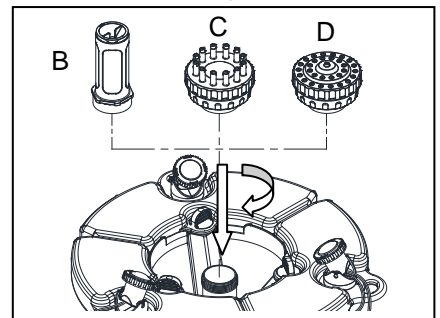

Fig. 2
2. Choose a fountain head for the desired water effect, and assemble your choice as shown in Fig. 2